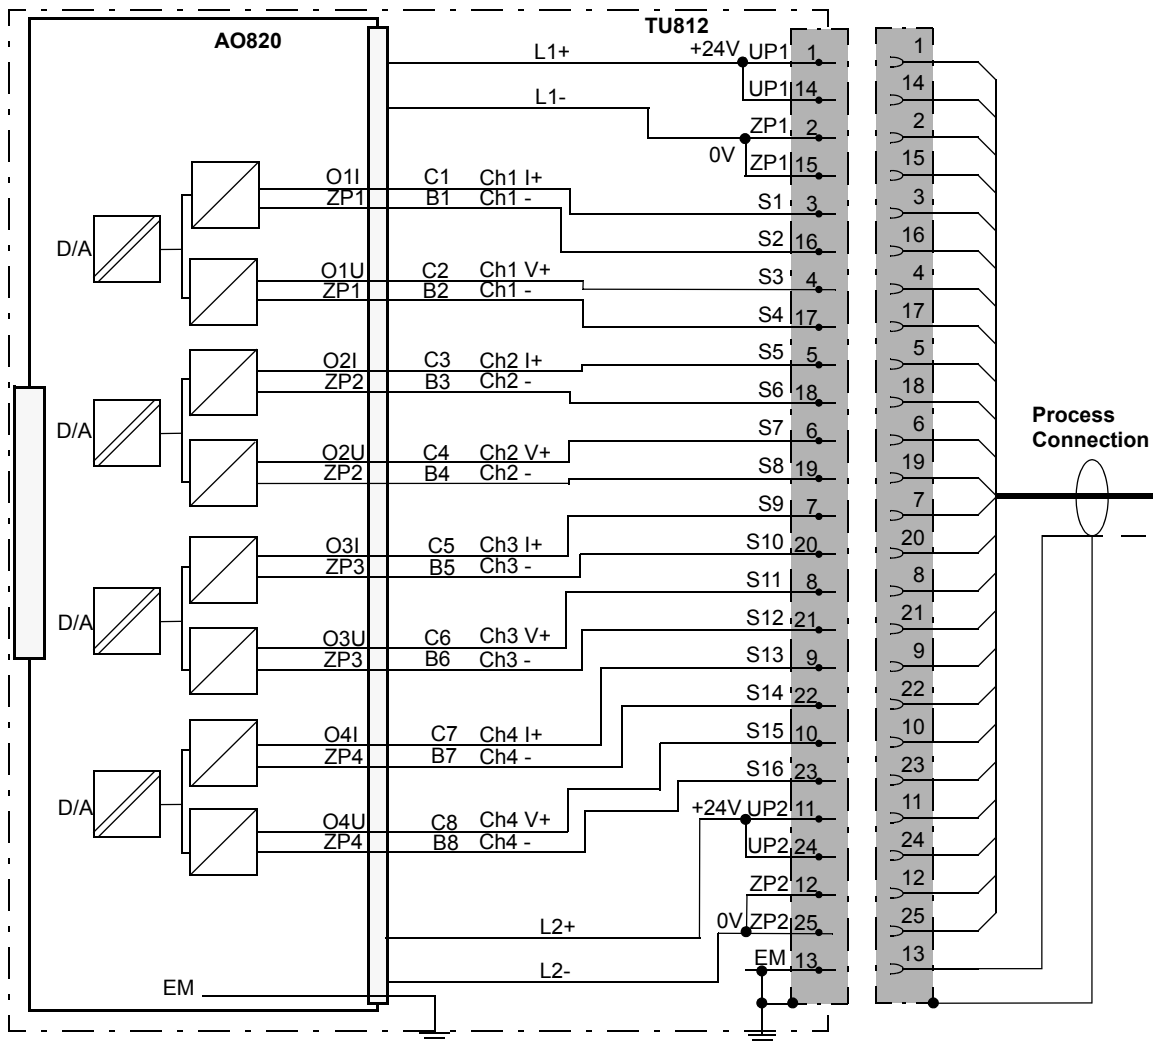

Figure 81. AO820 with TU812 Compact MTU
**Figure 81** shows the process connections for the AO820 when installed on a TU812 Compact MTU